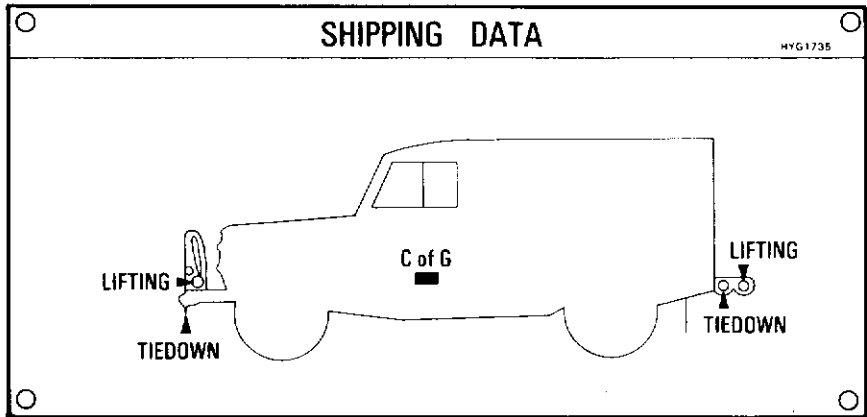

Figure 1-20 Shipping data plate
98. Shipping data plate (Fig. 1-20)